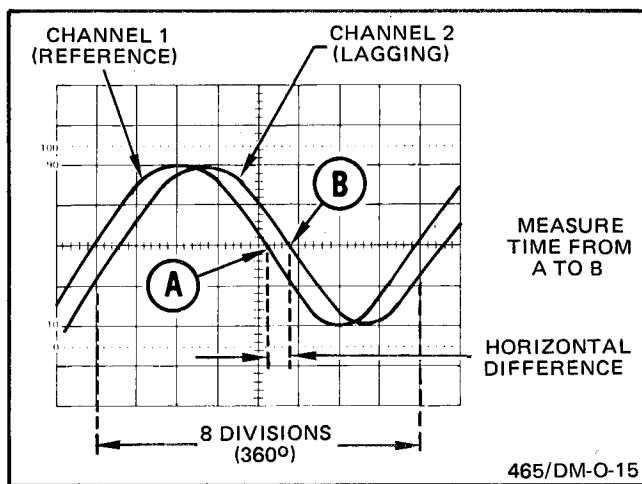

Fig. 2-14. Phase difference.
6. Turn the variable (X1 - X10) SEC/DIV control until one cycle of the reference signal (Channel 1) occupies exactly eight divisions between the first and ninth graticule lines (see Fig. 2-14). Each division of the graticule represents 45° of the cycle ($360^\circ \div 8 \text{ divisions} = 45^\circ/\text{division}$).
Assume a horizontal difference of 0.6 divisions with a sweep rate of $45^\circ/\text{division}$ as shown in Fig. 2-14.